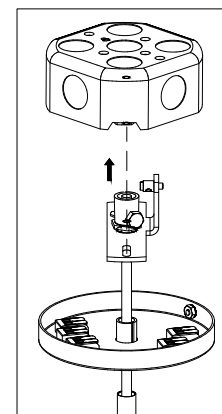

Figure 2: Base Mounting [1/2]
4. Make connections from driver to supply wiring: [Figure 2]
5. Attach canopy mounting kit onto 4" octagonal wiring box using [2] Phillips screws. [Figure 2]